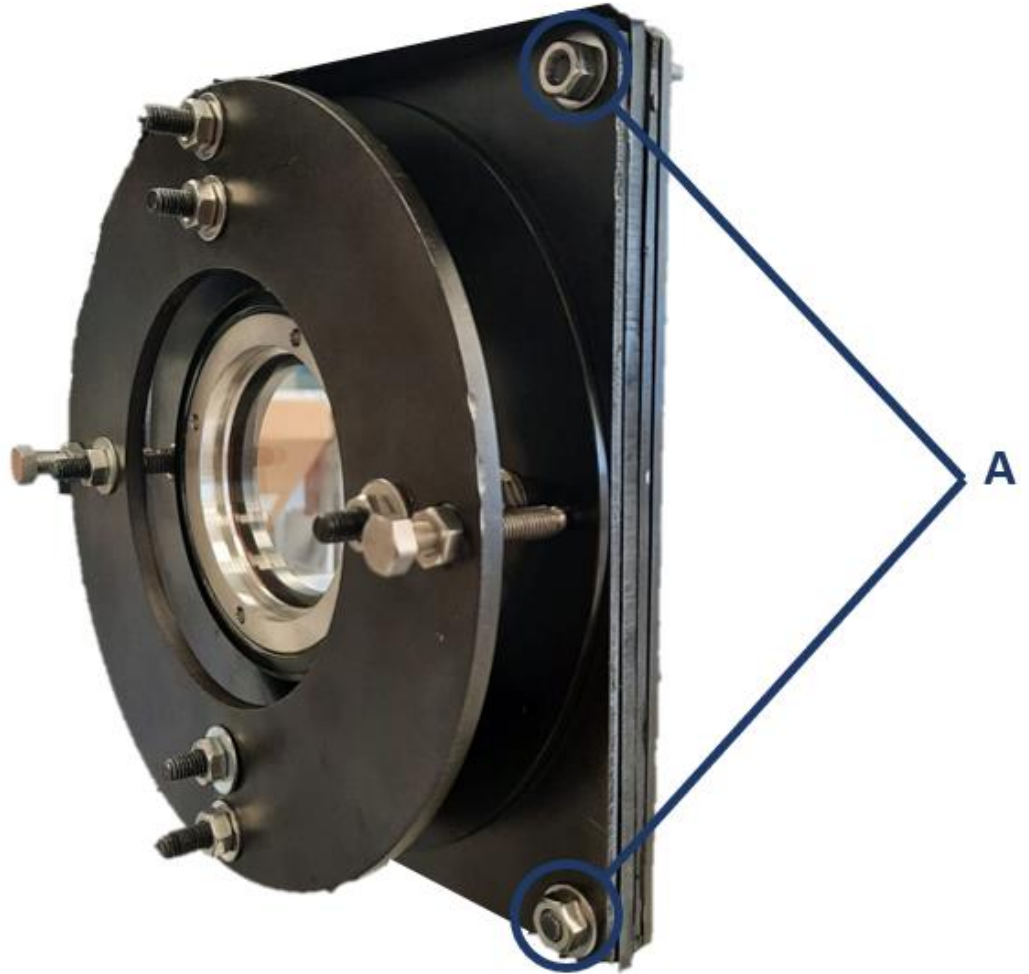

Figure 12: Tightening the detector plate screws
- 5) Attach washers and nuts to the four detector plate screws, item A, Figure 12 and tighten.